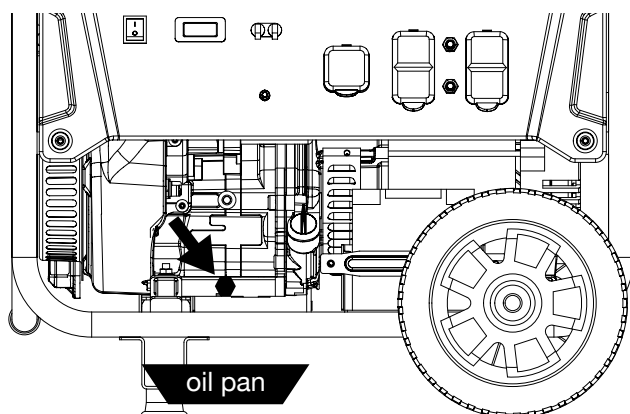

Figure 17 - Oil Drain Plug
3. Place oil pan (or suitable container) under the oil drain plug (see Figure 17).
5. Remove the oil drain plug (see Figure 17). Once removed, place the oil drain plug on a clean surface.